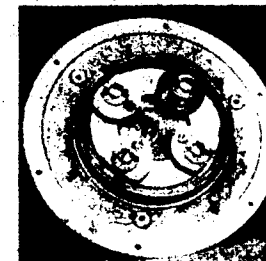

Fig. 1
- (b) An unvarying tension of 300 grams is maintained on the film between scanner drum and sprocket by means of eddy current drag produced in the flywheel. This is done by placing copper ring in the flywheel, (see Fig. 1) and causing it to rotate in a magnetic field by high coercive force magnets. The amount of drag and consequently the amount of film is adjusted at the factory by setting the air gap between the copper ring and the magnet attempt should be made to change this adjustment in the field.